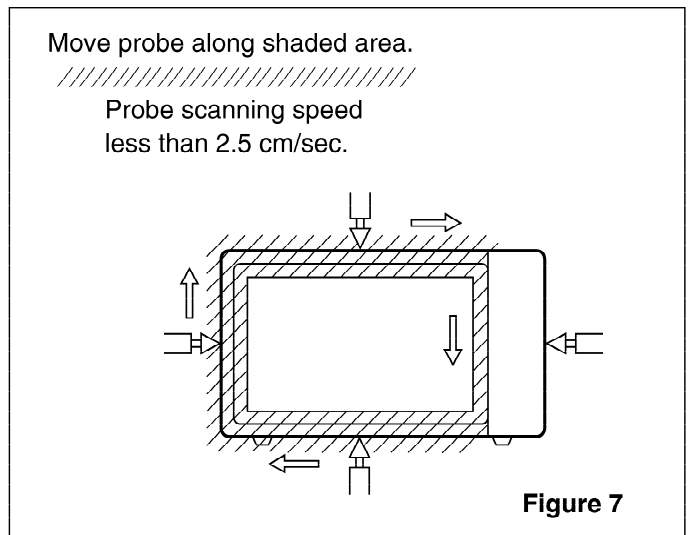

Figure 7
- (1) Pour $275\pm 15\text{cc}$ of $20\pm 5^\circ\text{C}$ water in a beaker which is graduated to 600 cc, and place the beaker in the center of the oven.
- (2) Set the energy leakage monitor to 2,450 MHz and use it following the manufacturer's recommended test procedure to assure correct result.
- (3) When measuring the leakage, always use the 2 inch (5cm) spacer supplied with the probe.
- (4) Operate the oven at its maximum output.
- (5) Measure the microwave radiation using an electromagnetic radiation monitor by holding the probe perpendicular to the surface being measured. (See Figure 7)